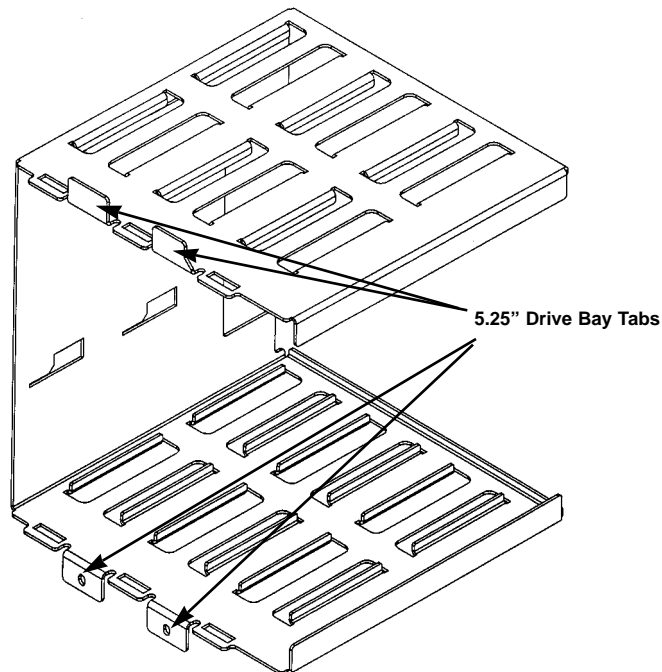

Figure 3-2: 5.25 Inch Drive Bay
- **Removing the 5.25 Inch Drive (refer to Figure 3-2):**
- ***Installing the 5.25 Inch Drive (refer to Figure 3-2):***